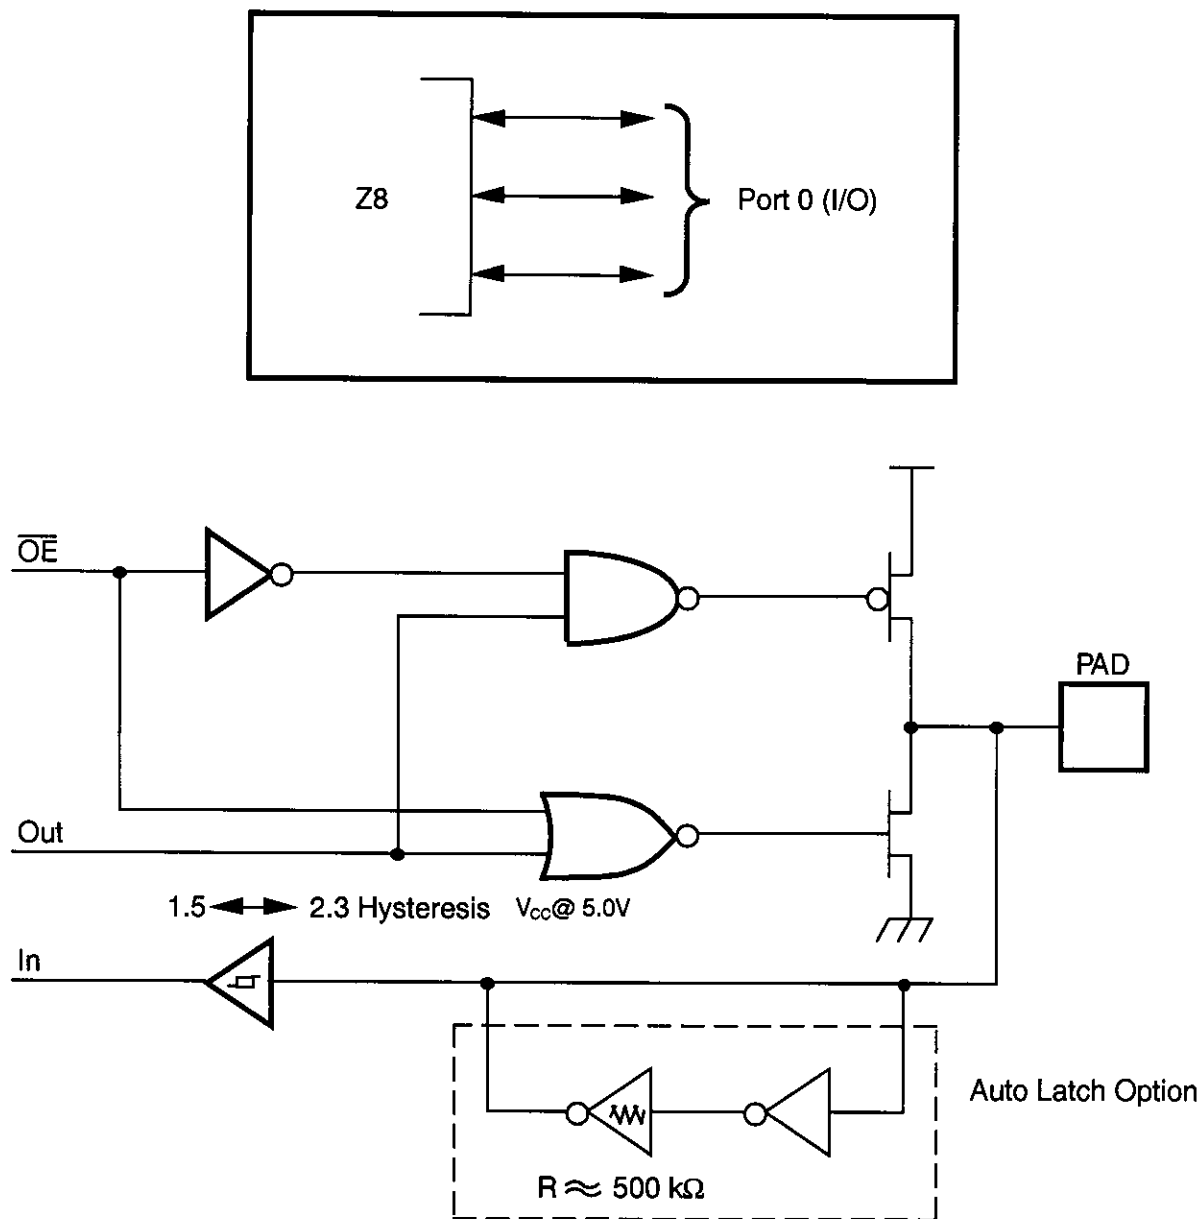

Figure 7. Port 0 Configuration
**Port 0, P02–P00.** Port 0 is a 3-bit bidirectional, Schmitt-triggered CMOS-compatible I/O port. These three I/O lines can be globally configured under software control to be inputs or outputs (Figure 7).